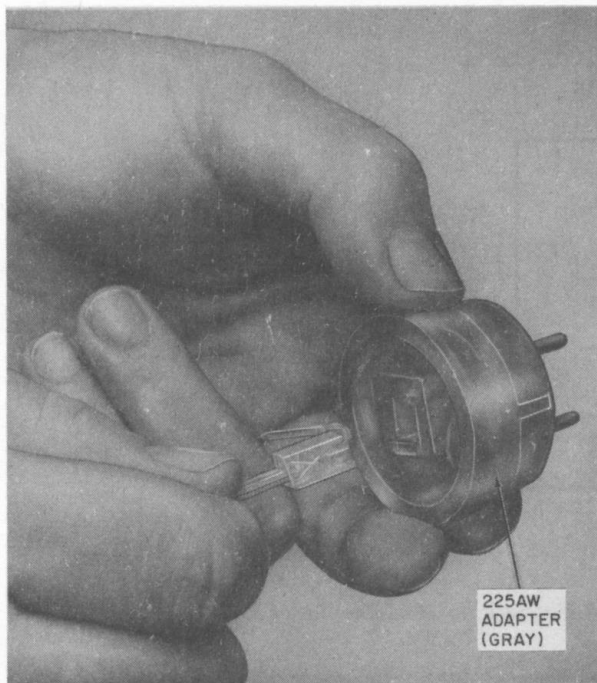

Fig. 1—225AW Adapter
2.01 USOC RJA1X: This arrangement uses a gray 225AW adapter (Fig. 1) to provide physical compatibility between the modular plug